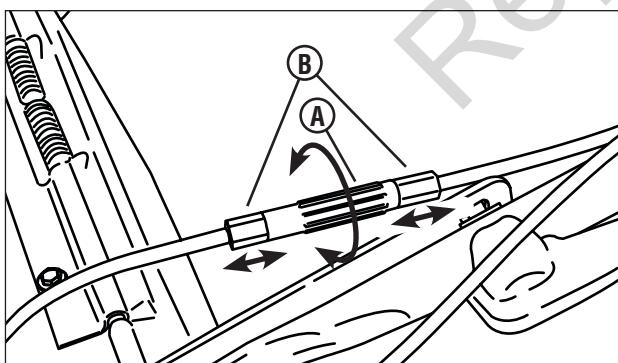

Figure 17: Adjusting the drive cable
- If the transmission does not engage, rotate the turnbuckle (A, **Figure 17**) one-half turn to move the ferrules (B) out from the turnbuckle. Check and repeat as needed.